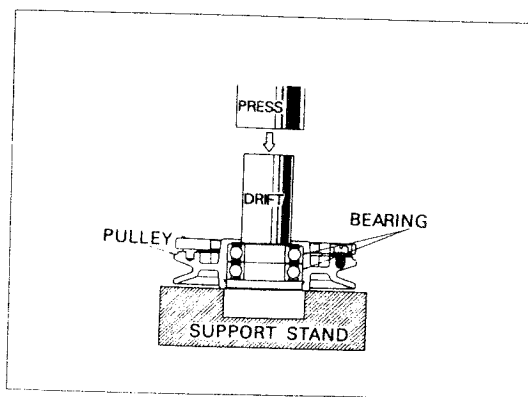

Fig. 83
- 3) Place the pulley on the support stand with pulley side down, and press two bearings from the pulley boss. See Fig. 83.